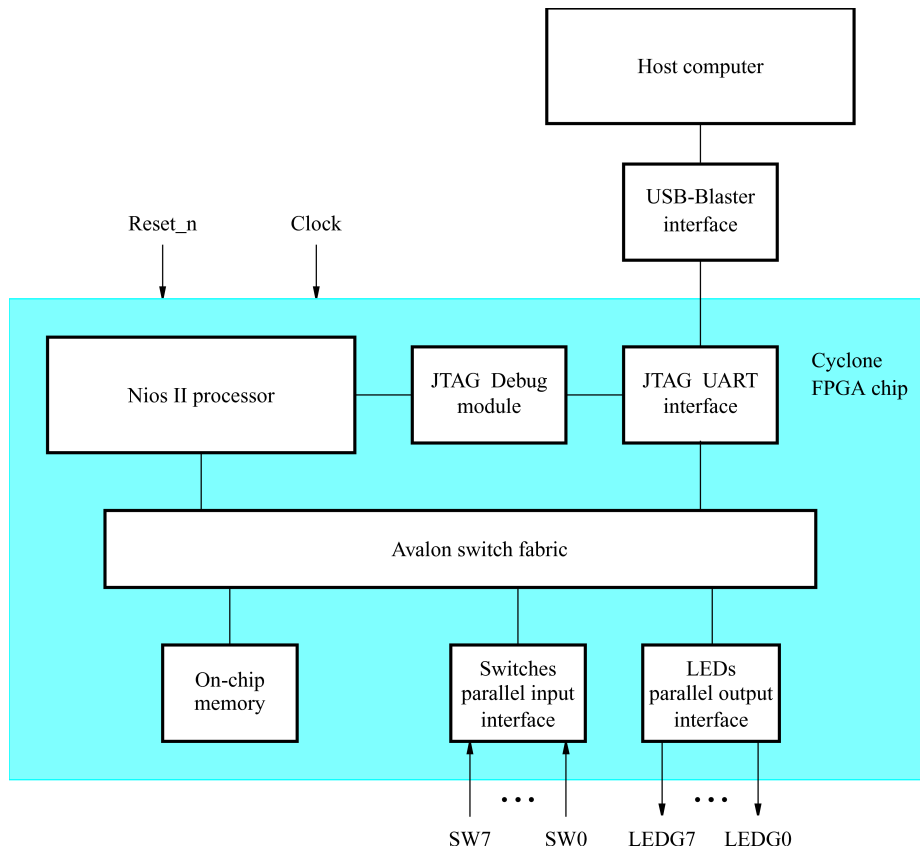
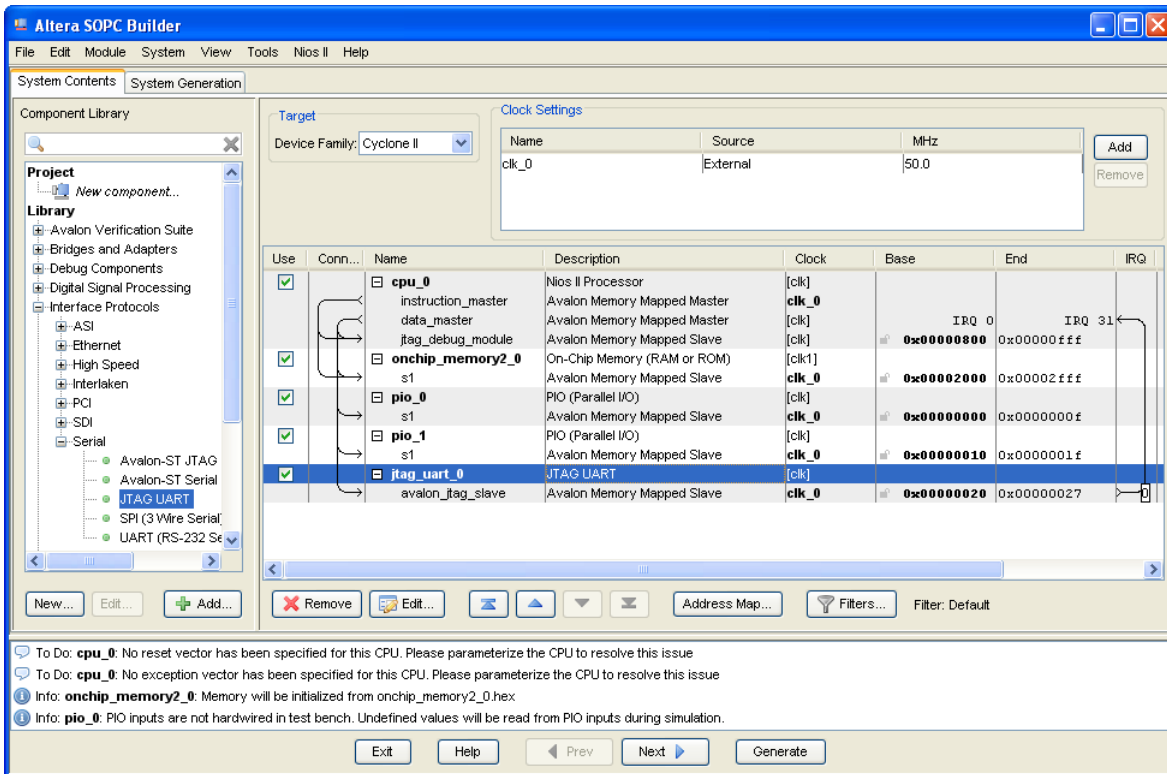

Figure 2. A simple example of a Nios II system.
Figure 13. The complete system on a DE-series board.
Our example system is given in Figure 2. The system realizes a trivial task. Eight toggle switches on the DE-series board, *SW7–0*, are used to turn on or off the eight green LEDs, *LEDG7–0*. The switches are connected to the Nios II system by means of a parallel I/O interface configured to act as an input port. The LEDs are driven by the signals from another parallel I/O interface configured to act as an output port. To achieve the desired operation, the eight-bit pattern corresponding to the state of the switches has to be sent to the output port to activate the LEDs. This will be done by having the Nios II processor execute a program stored in the on-chip memory. Continuous operation is required, such that as the switches are toggled the lights change accordingly. Note that on a DE0-Nano board, there are only four dip switches. Therefore, if you have this board, use the four dip switches, *SW3–0*, and four LEDs, *LED3–0*.
We will use the SOPC Builder to design the hardware depicted in Figure 2. Next, we will assign the Cyclone-series pins to realize the connections between the parallel interfaces and the switches and LEDs which act as I/O devices. Then, we will configure the FPGA to implement the designed system. Finally, we will use the software tool called the *Altera Monitor Program* to assemble, download and execute a Nios II program that performs the desired task.
The SOPC Builder is a tool used in conjunction with the Quartus II CAD software. It allows the user to easily create a system based on the Nios II processor, by simply selecting the desired functional units and specifying their parameters. To implement the system in Figure 2, we have to instantiate the following functional units:
10. The complete system is depicted in Figure 13. Note that the SOPC Builder automatically chooses names for the various components. The names are not necessarily descriptive enough to be easily associated with the target design, but they can be changed. In Figure 2, we use the names Switches and LEDs for the parallel input and output interfaces, respectively. These names can be used in the implemented system. Right-click on the pio_0 name and then select **Rename**. Change the name to Switches. Similarly, change pio_1 to LEDs.